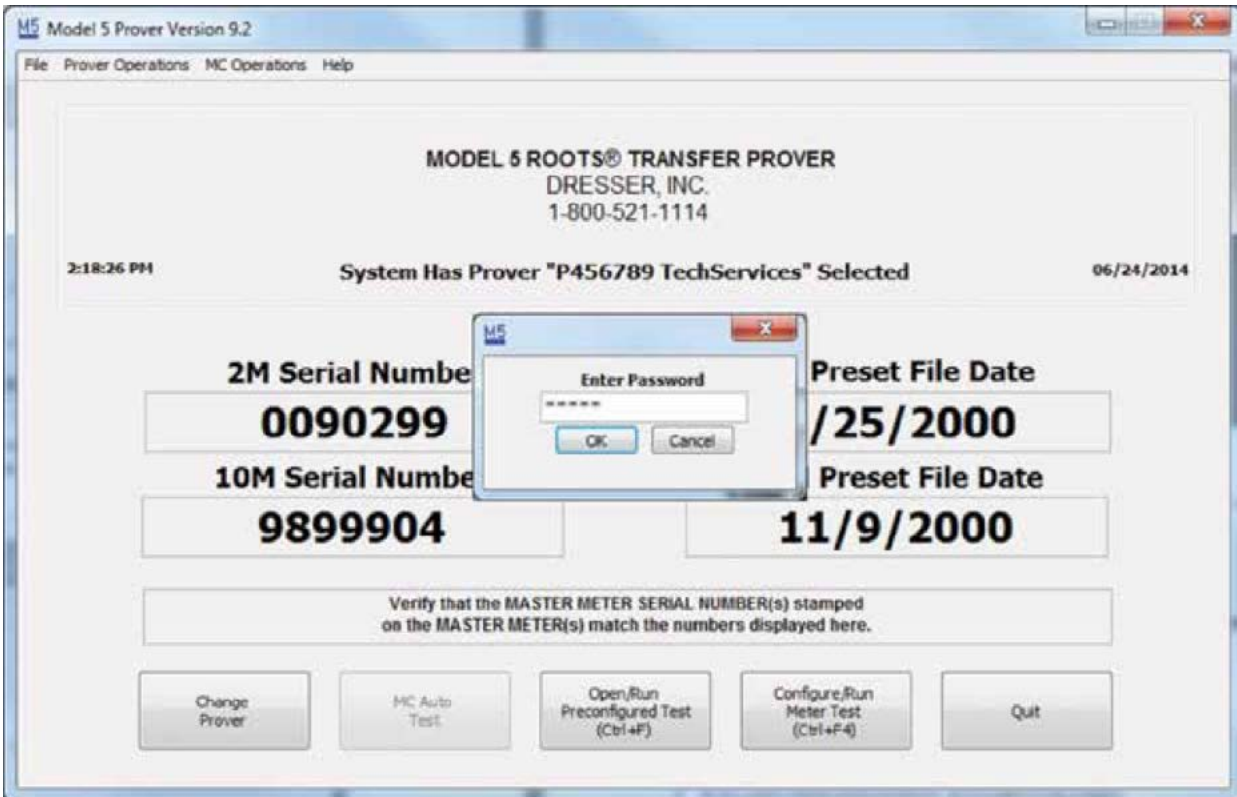

Figure 23: Prover Setup Password
- Upon selecting "Prover Setup, there will be a prompt to enter a password as shown in Figure 23. The password is "ROOTS". Capitalization is required. Press "OK."